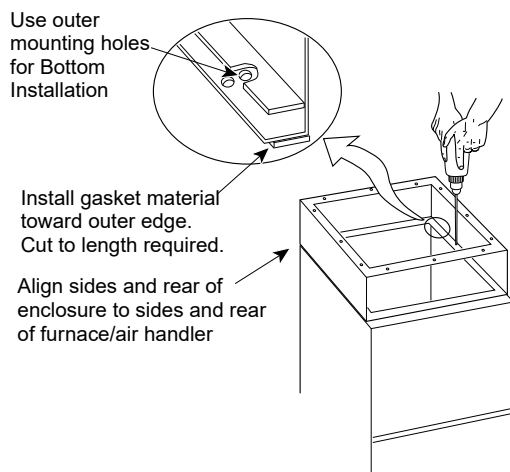

Figure 5. Bottom Installation Details
2. Position the furnace/air handler on a protective pad on the floor with the bottom of the furnace/air handler in the up position (see Fig. 5).